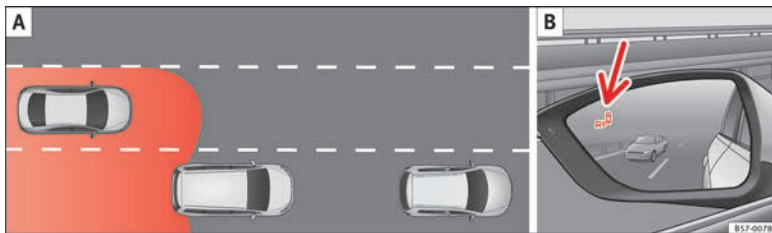

Fig. 203 Schematic diagram: **A** Passing situation with traffic behind the vehicle. **B** Indication from the blind spot detector in the left-hand external mirror.
the outside »» Fig. 202. The sensors monitor both the blind spot and traffic behind the vehicle »» Fig. 203, »» Fig. 204. The range to the sides of the vehicle is a bit larger than the width of a lane.
In the following situations, an indication will be displayed in the external mirror »» **Fig. 203 B** (arrow) or »» **Fig. 204 B** (arrow):
- When being overtaken by another vehicle »» **Fig. 203 A**.